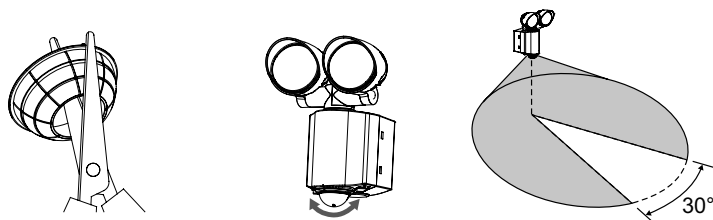

Fig 6
- Specific areas within the detection zone can be blocked if required (see Fig 6)